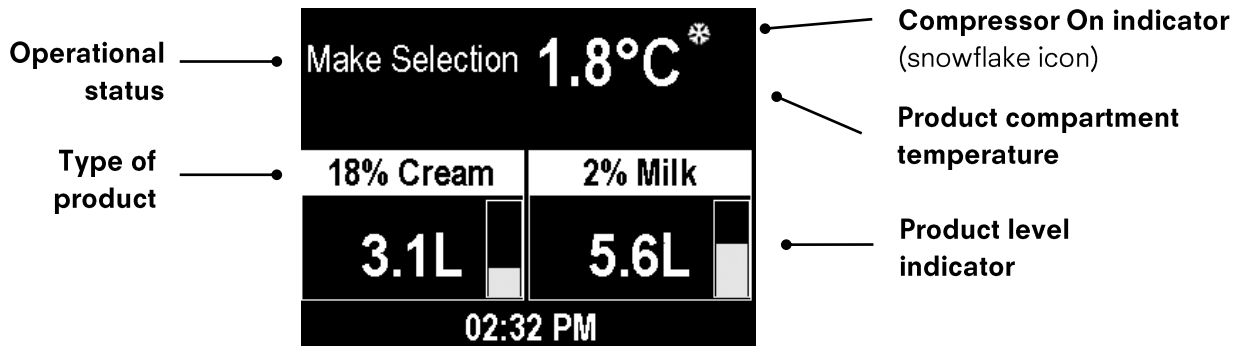

Figure 6: Display in normal operating mode
- There are no notifications (Figure 6).
With the dispenser door closed, the correct product(s) will be shown on the display (Figure 6). For dispensers with more than one product, it is crucial to identify the correct location within the product compartment for each product according to the software (e.g., 18% cream installed above the left valve). To change the default product(s) or a product location refer to the instructions for Products in the SOFTWARE FEATURES section of this manual.